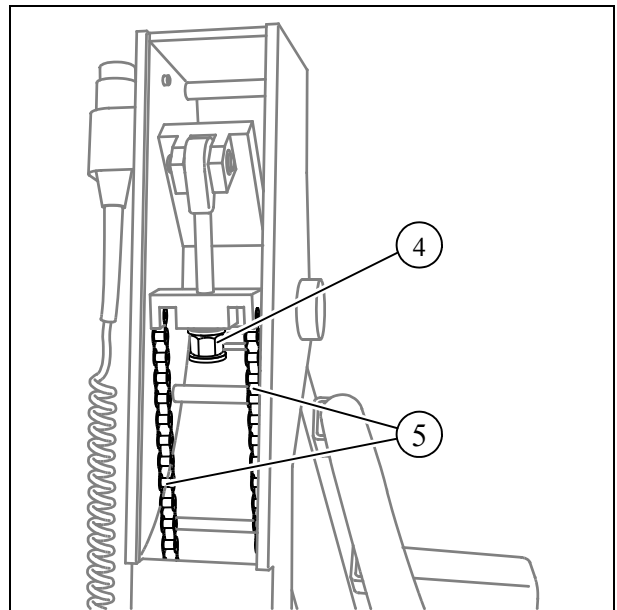

Fig. 8
- Tighten the nut (4/Fig.8) with a 17 mm fork wrench.
- Carefully check the condition of the spring counterweight chains (5/Fig.8). Replace the stand column if the chains are defective.
- Lubricate the chains (5/Fig.8) using Optimol Longtime PD2 grease.